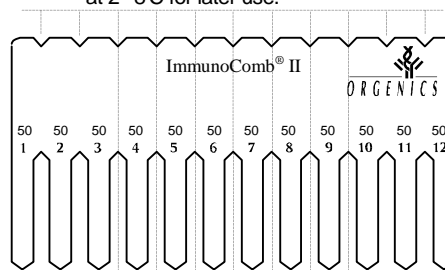

Figure 4. Breaking the Card
- Bend and break the Card vertically or cut with scissors (see Figure 4) to detach the required number of teeth (No. of tests including 2 controls).